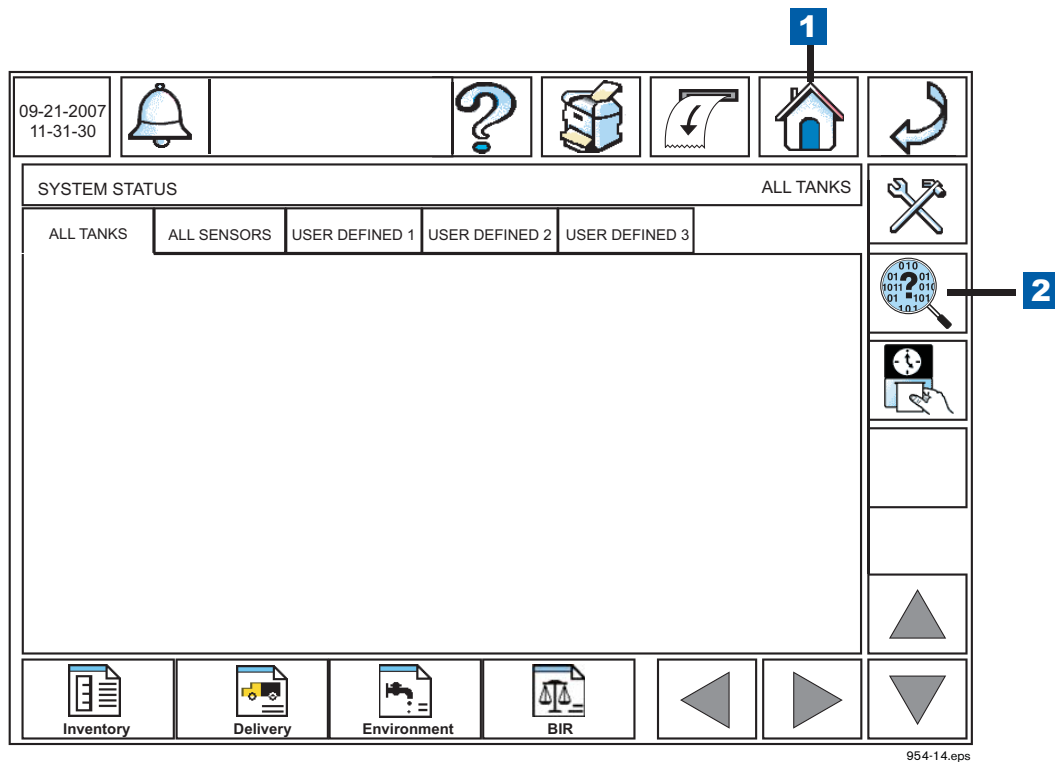

Figure 2. Accessing Diagnostic Main Screen From The Home Screen
2. Touch the Diagnostics button on the Home Screen (see item 2 in Figure 2).
#### LEGEND FOR NUMBERED BOX IN Figure 2